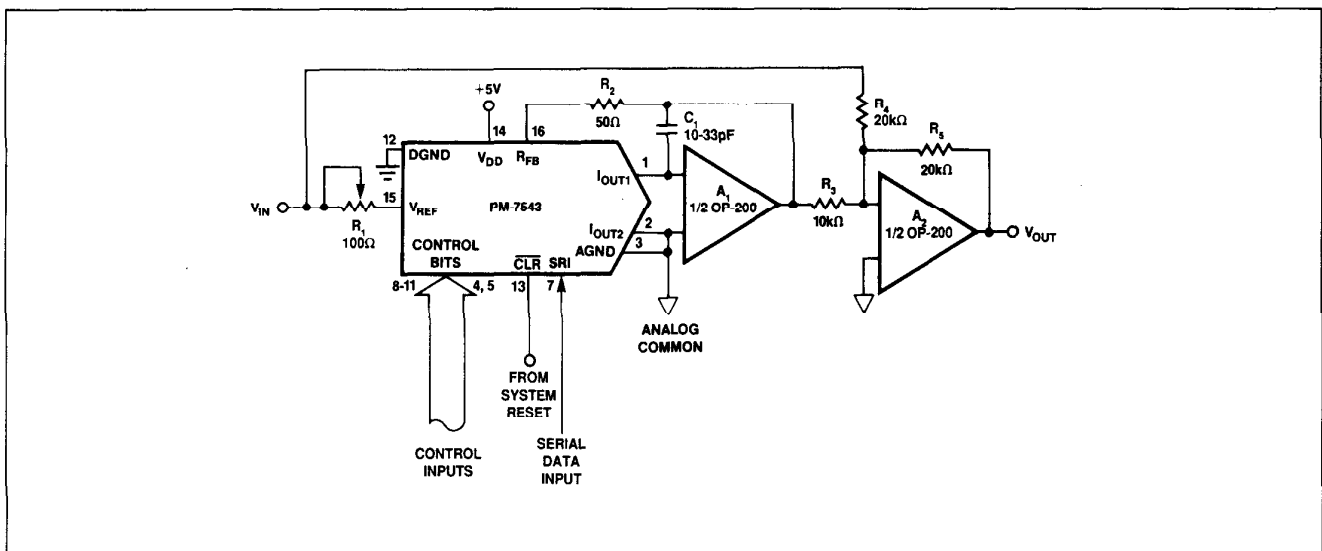

FIGURE 9: Bipolar Operation (4-Quadrant, Offset Binary)
Figure 9 details a suggested circuit for bipolar, or offset binary operation. Table 3 shows the digital input to analog output relationship. The circuit uses offset binary coding. Two's complement code can be converted to offset binary by software inversion of the MSB or by the addition of an external inverter to the MSB input.
- Nominal full scale for the circuits of Figure 9 is given by  $FS = V_{REF} \left( \frac{2047}{2048} \right)$ .
- Nominal LSB magnitude for the circuits of Figure 9 is given by  $LSB = V_{REF} \left( \frac{1}{2048} \right)$ .